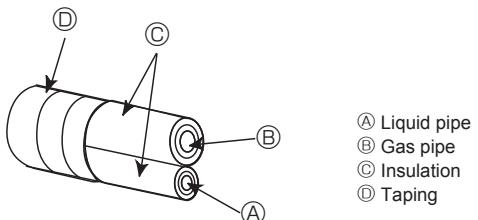

Fig. 4-4
4.3. Connecting pipes (Fig. 4-4, Fig. 4-5)